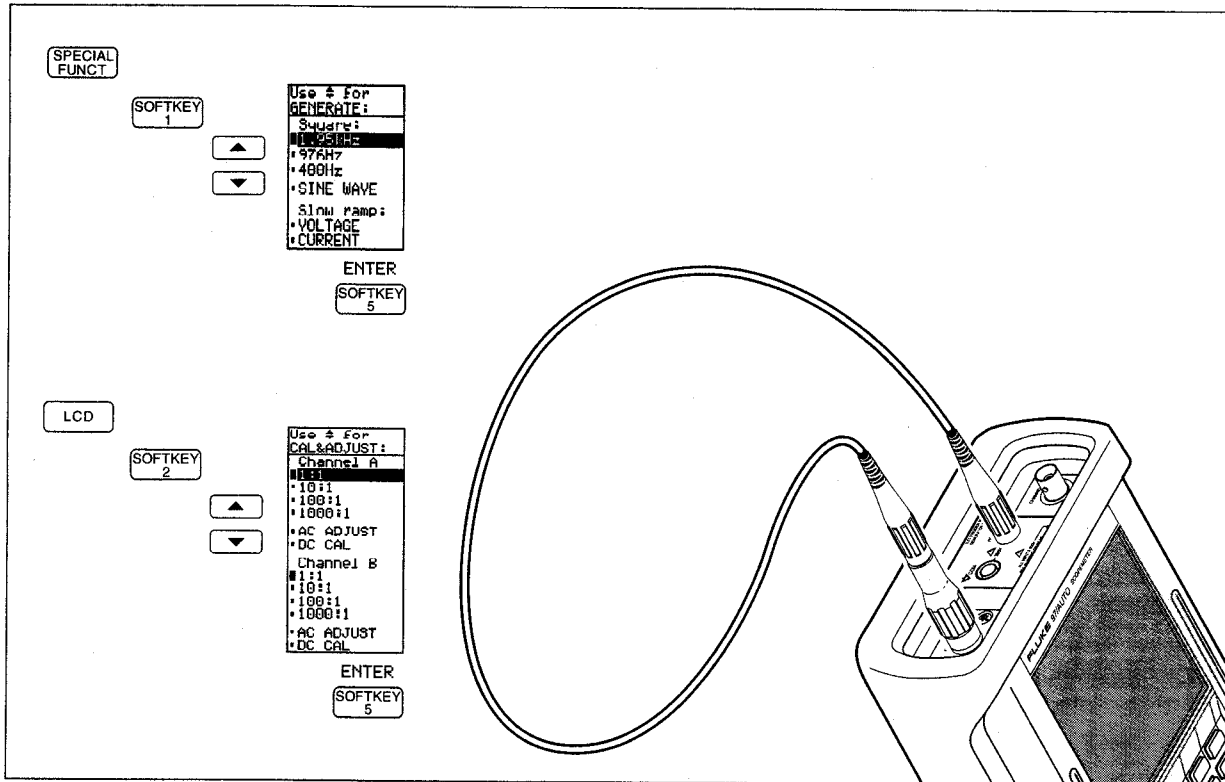

Figure 7-2. Performance Test Setup
2. Make the following connections (see Figure 7-2):